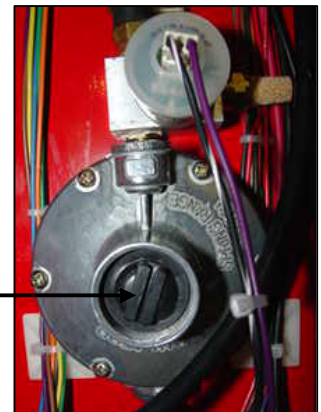

Figure 5
8. Be sure Tester's TEST function is still ON. Use a flat-blade screwdriver to adjust the system pressure until pressure reads 14" to 15" w.c. (see figure 5)